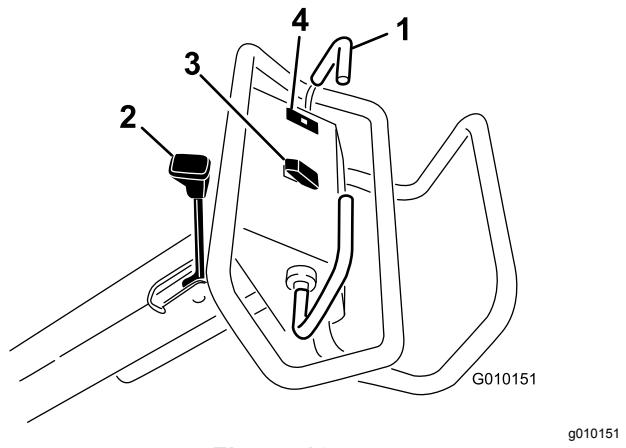

Figure 13
To move forward, move the traction bail forward. To move rearward, move the traction bail rearward (Figure 13).
- To engage the parking brake, move the parking-brake lever toward the operator handle (Figure 13).
The oil-pressure warning light (Figure 13) illuminates when the engine-oil pressure drops below a safe level. If low oil pressure ever occurs, shut off the engine and determine the cause. Repair the damage before starting the engine again.
Raise—Press the top of the switch (Figure 13) to raise the coring head and disengage the coring head. The engine must be running to generate lift pressure. If the coring head is below the transport height, refer to Resetting the System Control Circuit \(page 26\).
Lower/Engage—Press the bottom of the switch (Figure 13) to lower and engage the coring head. The traction bail must be in the forward position to activate the switch.